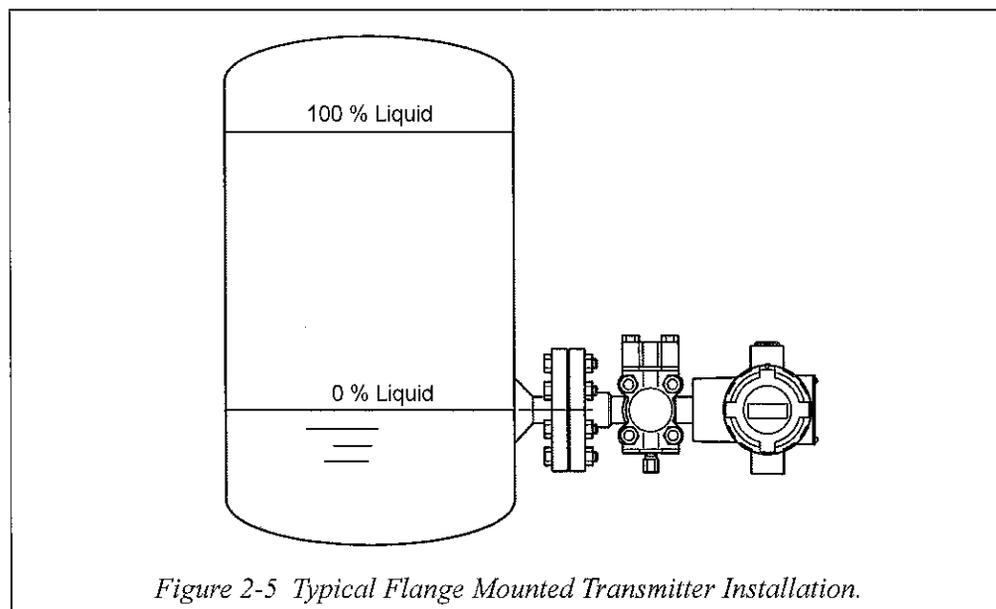

Figure 2-5 Typical Flange Mounted Transmitter Installation.
Figure 2-5 shows a typical installation for a transmitter with the flange on the high pressure (HP) side so the HP diaphragm is in direct contact with the process fluid. The low pressure (LP) side of the transmitter is vented to atmosphere (no connection).